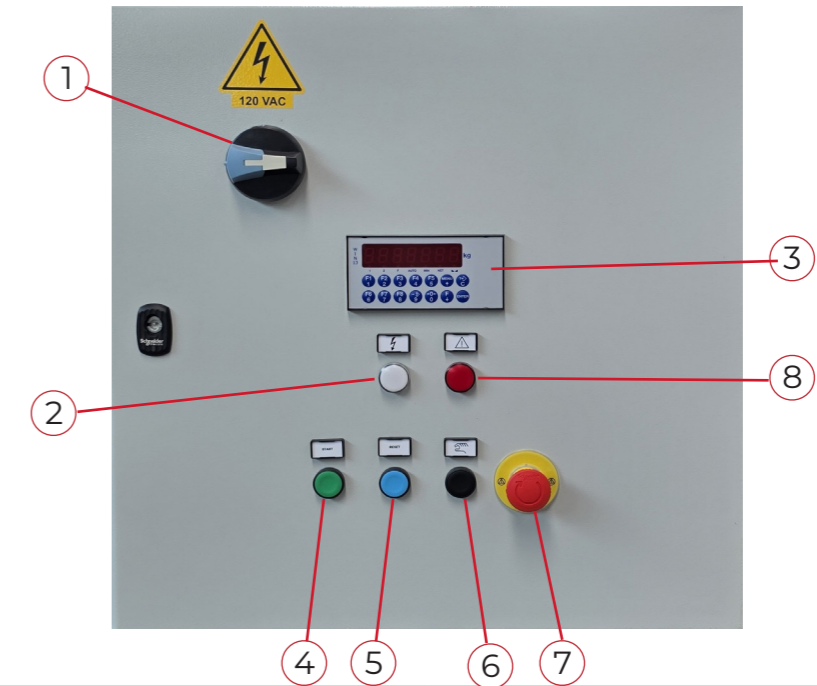

Figure 13
3. Press and hold the Reset button for 3 second (5, fig. 13)
4. Press and hold the Cycle Start button (4, fig. 13) for 5 seconds to move the empty box onto the weighing conveyor.